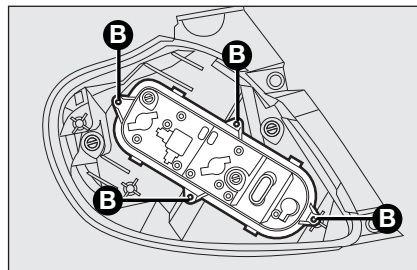

fig. 20
- ☐ extract the bulb holder from its seat after releasing the four fixing screws **B-fig. 20**;